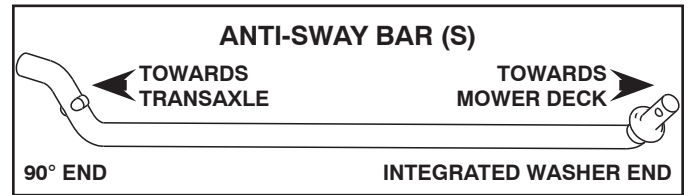

Fig. 28
## 5. INSTALL ANTI-SWAY BAR (S) (IF EQUIPPED) (See Fig. 28 - 30)